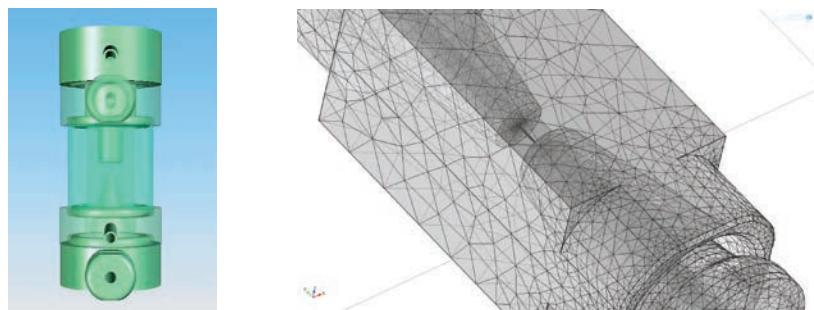

FIGURE 4. CAD model of the micro aperture-electrode system, which was imported into COMSOL Multiphysics using the CAD Import Module.
FIGURE 4. Temperature results (40,000 FDH case) for the building after renovations and additional EPS insulation. The orange line (line graph) and vertical contour (surface plot) indicate 0°C.
The ground around the foundation of the renovated structure with WWCB dipped to -2°C in the simulation. The foundation of the renovated structure with the replacement-EPS insulation dipped even farther, to -4°C. This meant removing the heating pipe would risk serious damage to the building foundation (see Figure 4). It would be necessary to install additional insulation at the same time.
"Importing the CAD model of the measurement chamber allowed us to extract the computational domain," he explains. "In this case, if we want to compute fluid flow in the system, the simulation software automatically creates the fluid domain directly from the CAD model." Once the aperture-electrode system geometry (see Figure 4) was imported into COMSOL, analysis and optimizations could then be performed using the actual geometry of the device being manufactured.
**FIGURE 4.** Leading edge deflection of the involute fuel plate. Eigenfrequency analyses predicts the “S” shape deflection of the involute fuel plate of the ANSR and HFIR.
involute shape of the fuel plates was later analyzed. The resulting model accurately predicted the FSI and resulting deformations of the ANSR fuel plate experiments along the plate’s length (see Figure 4).